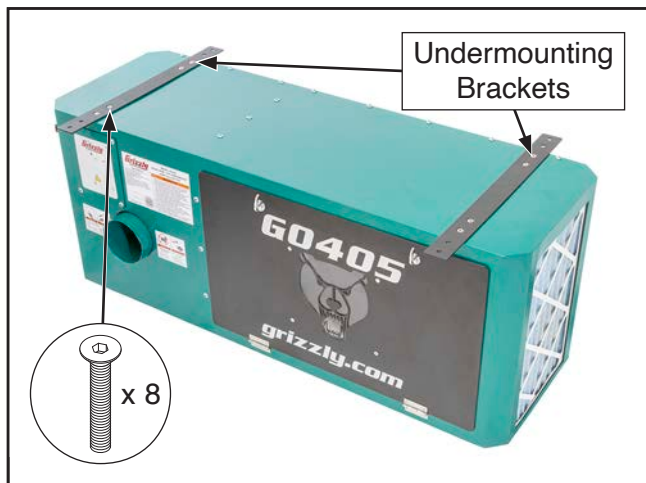

Figure 27. Undermounting brackets attached to machine body.
3. Attach (2) undermounting brackets to machine body with (8) $\frac{5}{16}$ "-18 x $\frac{5}{8}$ " flat head cap screws (see **Figure 27**).